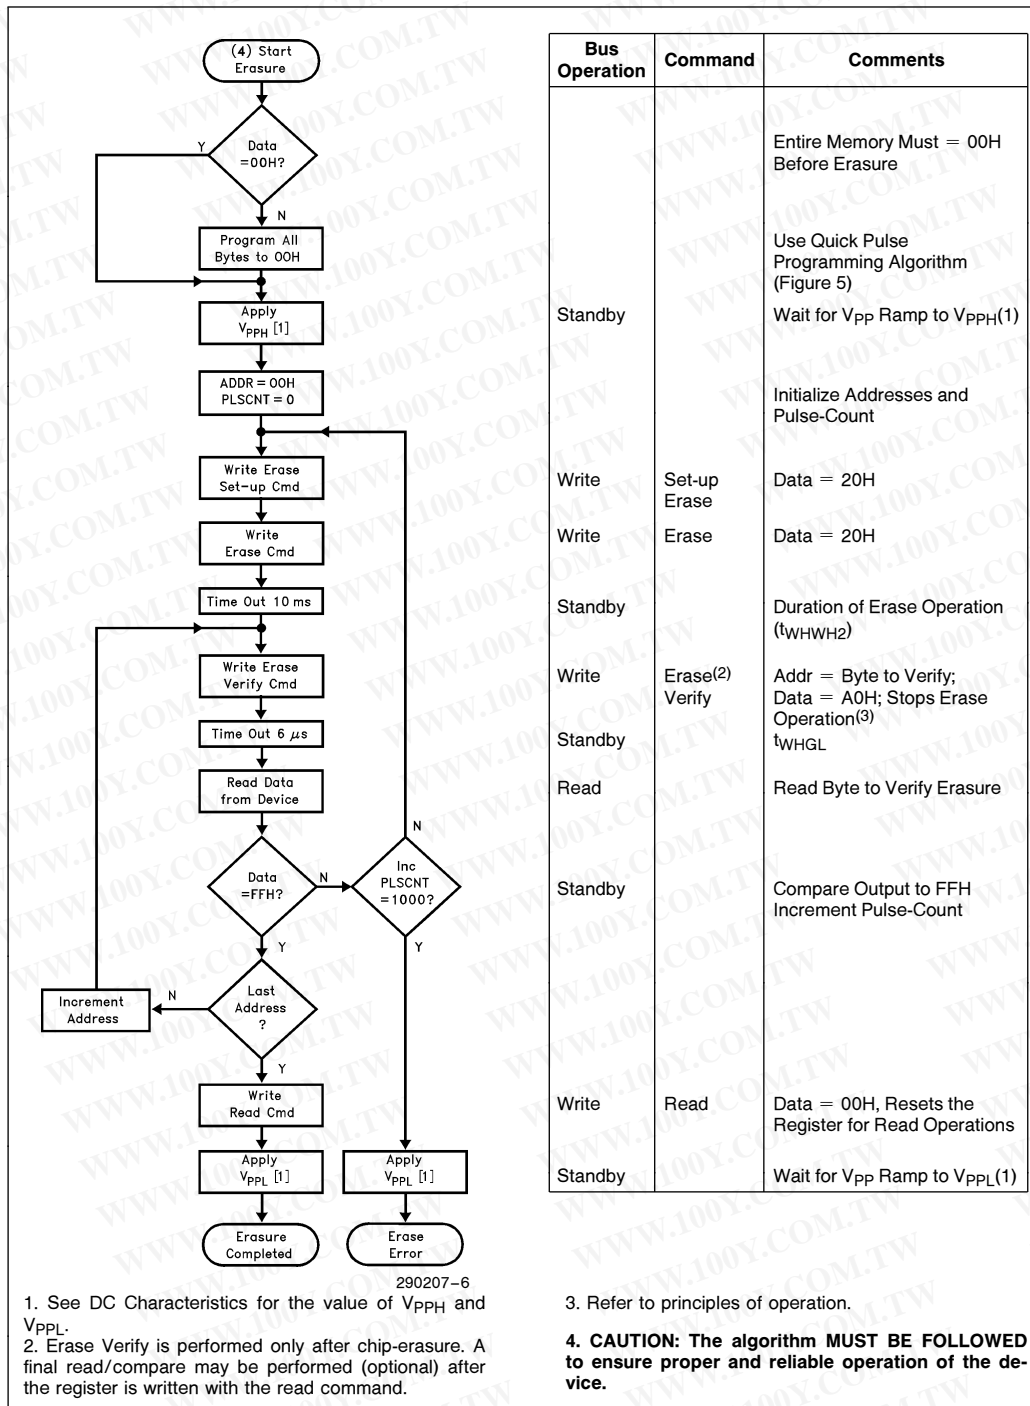

Figure 6. 28F010 Quick Erase Algorithm
- Figure 6 illustrates the Quick Erase Algorithm.
In the case where the data read is not FFH, another erase operation is performed. (Refer to Set-up Erase/Erasure). Verification then resumes from the address of the last-verified byte. Once all bytes in the array have been verified, the erase step is complete. The device can be programmed. At this point, the verify operation is terminated by writing a valid command (e.g. Program Set-up) to the command register. Figure 6, the Quick Erase algorithm, illustrates how commands and bus operations are combined to perform electrical erasure of the 28F010. Refer to AC Erase Characteristics and Waveforms for specific timing parameters.
Erasure execution then continues with an initial erase operation. Erase verification (data = FFH) begins at address 0000H and continues through the array to the last address, or until data other than FFH is encountered. With each erase operation, an increasing number of bytes verify to the erased state. Erase efficiency may be improved by storing the address of the last byte verified in a register. Following the next erase operation, verification starts at that stored address location. Erasure typically occurs in one second. Figure 6 illustrates the Quick Erase algorithm.